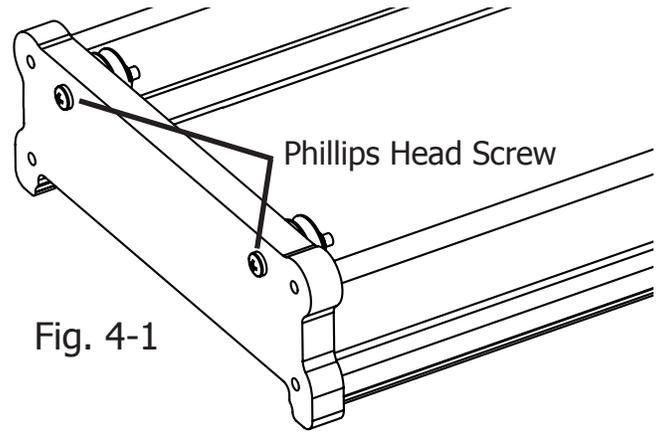

Fig. 4-1
**4-3:** Insert the Socket Head Screw through the Encoder, Washer (for Start Right Frame only), and wheel and into the hole which it was removed from, but do not fully tightening. See fig. 4-1.
**4-4:** Angle the encoder until it touches the track and tighten the Socket Head Screw until the encoder is securely attached so that it can't wiggle. *Make sure that the encoder wheel is the only part that contacts any part of the carriage.* When the bottom plate is sitting upright, the encoder should be angled up slightly, so that the encoder's wheel touches track on the quilting frame and the spring on the encoder is partially compressed. (See Fig. 4-1)
**NOTE: THE WHEELS ON ONE END OF THE BOTTOM PLATE ARE ATTACHED AS SHOWN IN Fig. 4-1. REMOVE ONE OF THESE WHEELS IN STEP 4-1.** The wheels attached to the other end of the Bottom Plate can not be used to attach the encoder.